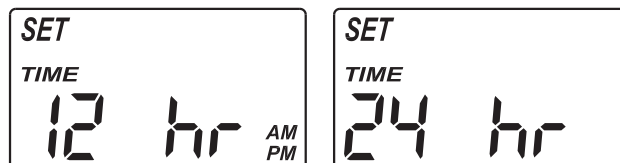

FIG. 26
2. Press the SELECT button three times, so that "12 hr" or "24 hr" flashes in the display (See Figure 26).